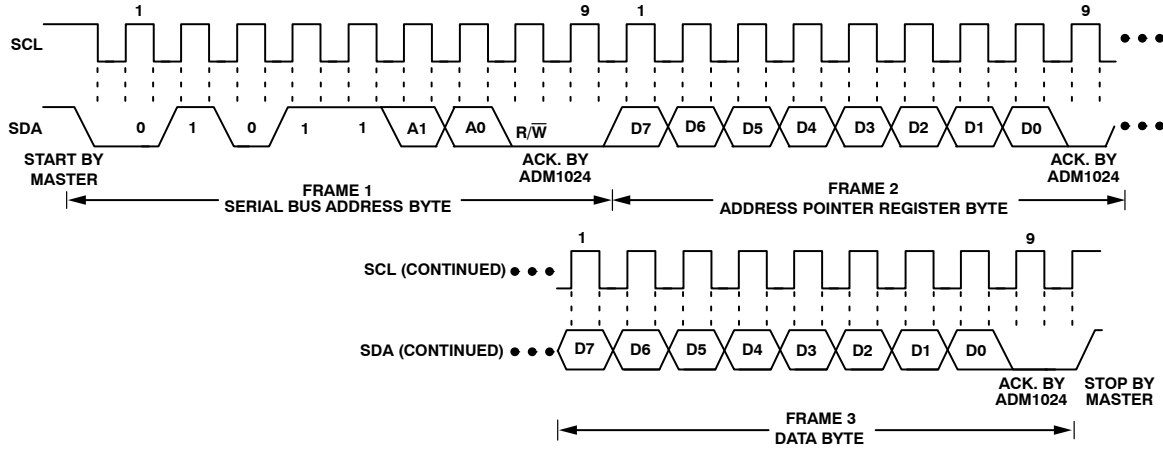
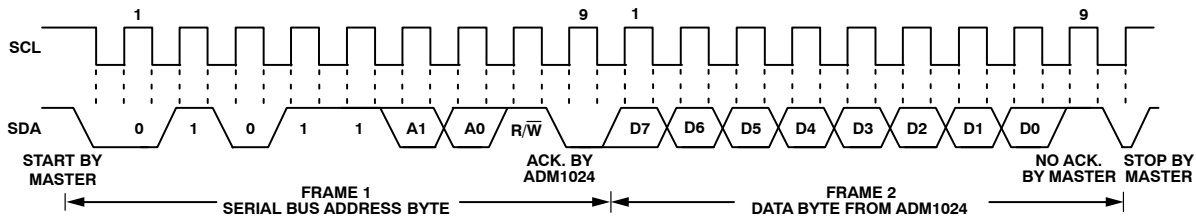

Figure 10. Writing a Register Address to the Address Pointer Register, then Writing Data to the Selected Register
Figure 12. Reading Data from a Previously Selected Register
To write data to one of the device data registers or read data from it, the Address Pointer Register must be set so that the correct data register is addressed, then data can be written into that register or read from it. The first byte of a write operation always contains an address that is stored in the Address Pointer Register. If data is to be written to the device, the write operation contains a second data byte that is written to the register selected by the Address Pointer Register. This is illustrated in Figure 10 The device address is sent over the bus followed by $R/\overline{W}$ set to 0. This is followed by two data bytes. The first data byte is the address of the internal data register to be written to, which is stored in the Address Pointer Register. The second data byte is the data to be written to the internal data register.
the serial bus address, R/W bit set to 1, followed by the data byte read from the data register. This is shown in Figure 12.
2. In Figure 10 to Figure 12, the serial bus address is shown as the default value 01011(A1)(A0), where A1 and A0 are set by the three-state ADD pin.